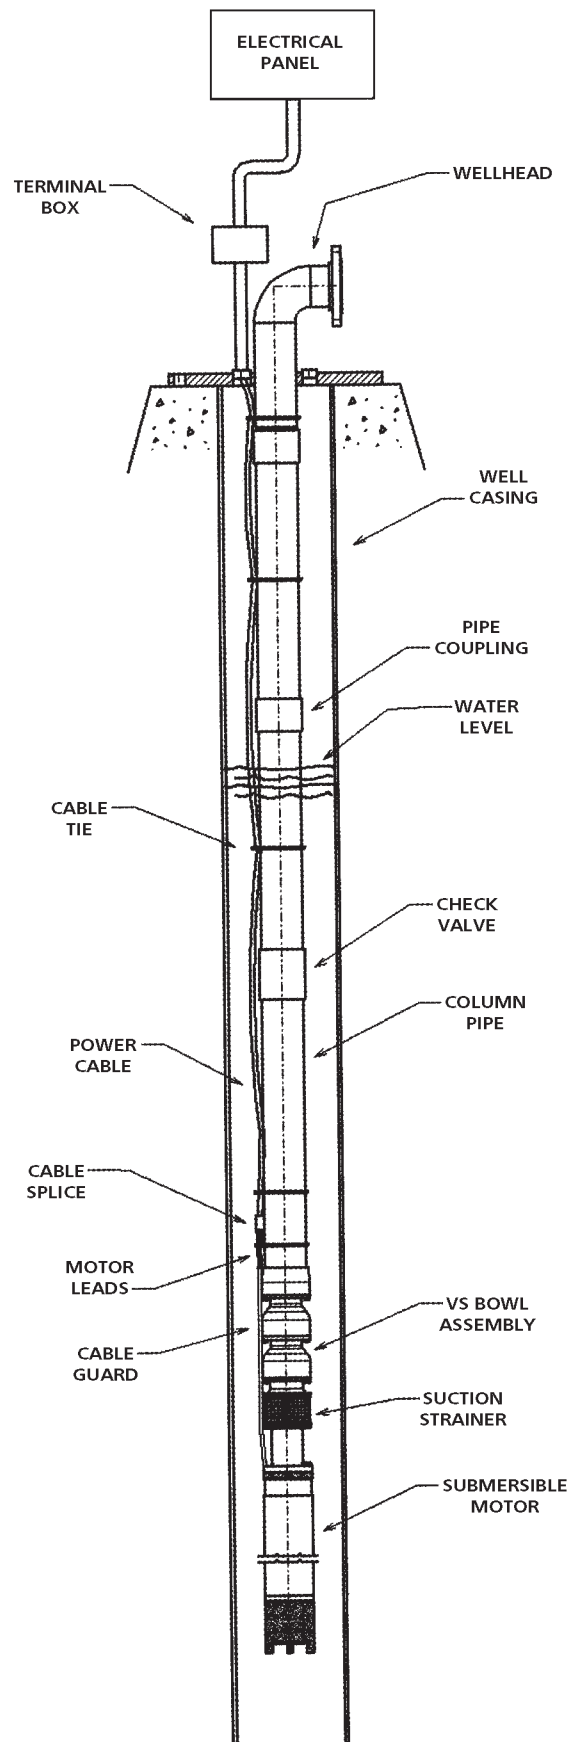

Figure 1 – Typical Submersible Pump Installation
Christensen Pumps model VS pump is a submersible turbine pump designed for maximum dependability. The VS pump also features capacities from 100 to 5000 GPM and larger, heads to 1000 feet. See Figure 1 for typical VS pump.
4. Install a cable clamp on each side of the cable splice. *See Figure 1.* Be careful not to damage the cable. If an air line is to be installed, route it beside the cable, making sure that it is not pinched by the clamps. If there is any danger that the splice will rub against the well casing during installation, it should be protected by thick rubber chaffing pads or by a steel shield. Check that the grounding system is in place.
8. After the last piece of column pipe has been installed, install the well head. Install a cable clamp between the last column pipe coupling and the well head base. *See Figure 1.* Route the power cable and grounding system through the large threaded hole in the head base. Route the air line (if used) through one of the smaller threaded holes in the head base. The remaining small threaded hole is for connection of a well vent or other accessories. All of these holes are threaded with standard NPT or BSP pipe threads. If a gasket is required between the head base and its mounting surface, the gasket should be placed on the foundation prior to installing the well head.